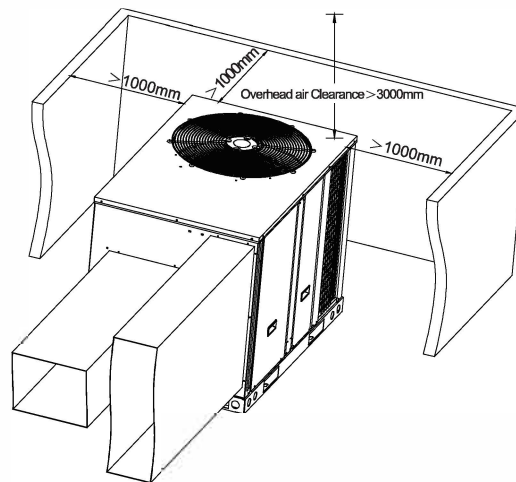

Fig.4-1
- The recommended clearances for single-unit installations are illustrated in Fig.4-1